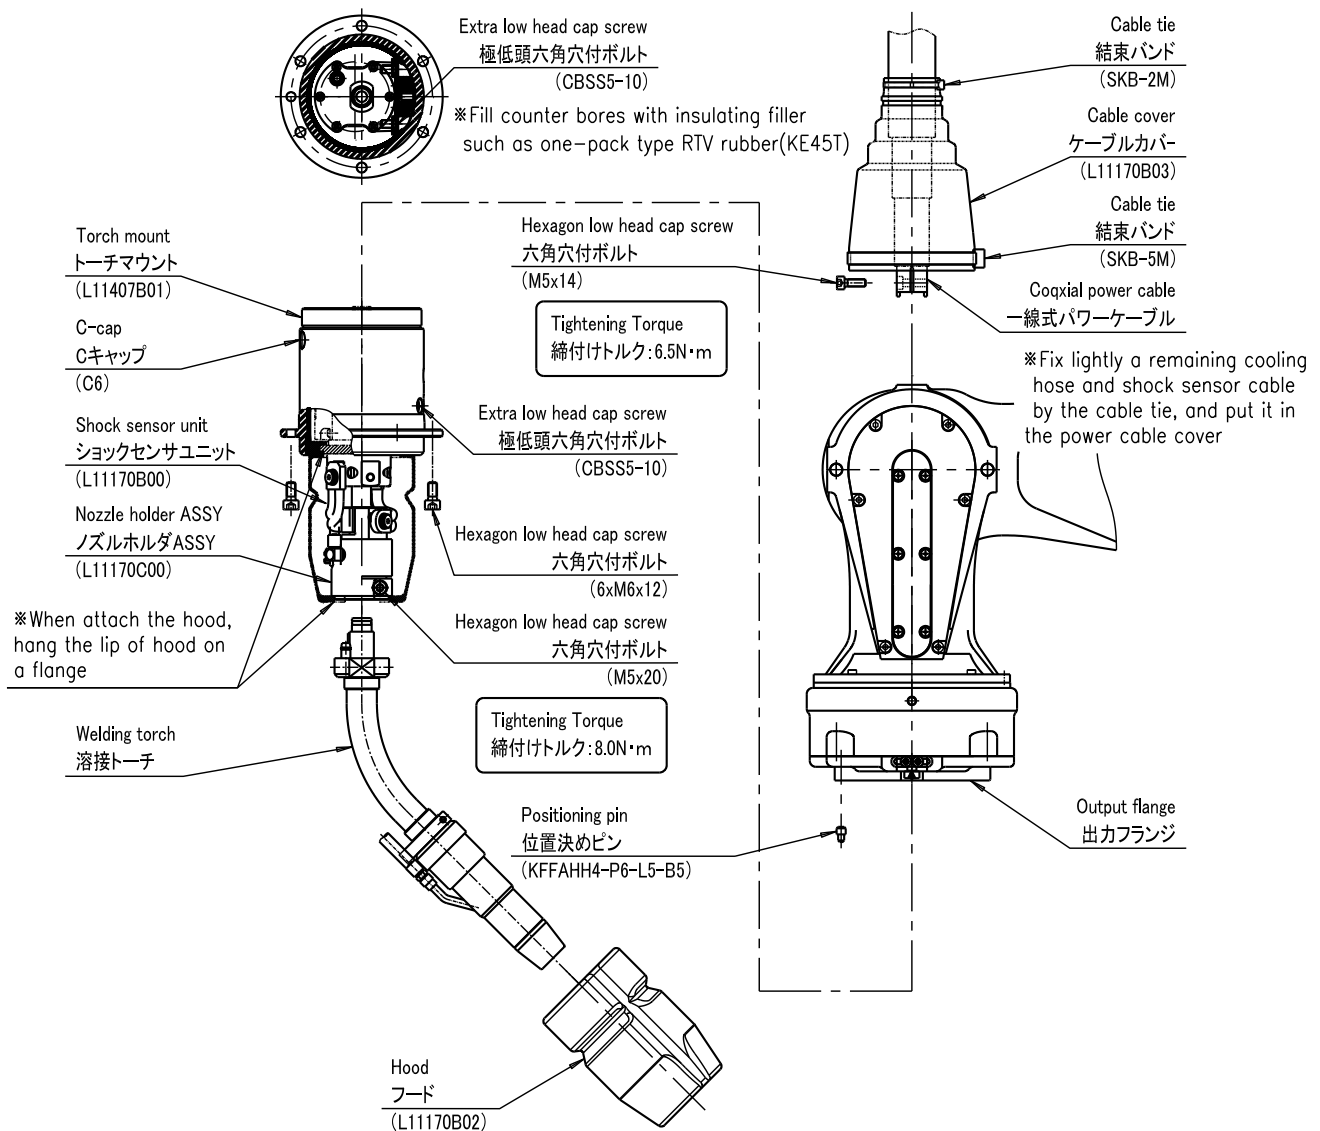

Fig. 3.3 Mounting of torch and shock sensor
- (2) Attach the insulating bracket (L11170F02) to the shock sensor unit (L11170B00) using 4 pieces extra low head cap screw (CBSS5-10), and **fill counter bores with insulating filler such as one-pack type RTV rubber over the bolts for secure insulation.**
- (3) Attach the torch mount to the shock sensor unit assembled in (2) using 4 pieces of extra low head cap screws (CBSS5-10). (This does not need to be insulated.)
- (4) In advance, pass the cable cover (L11170B03) through the coaxial power cable. Pass the coaxial power cable through the 6th axis hollow and then attach the cable to the shock sensor unit. To secure the cable, insert a tool from the hole on the side of the torch mount and secure the bolts. Cap the hole through which the tool is passed using C cap (C6). Connect the shock sensor cable.
- (5) Insert the shock sensor unit assembled in (4) into the manipulator output flange from the bottom and secure it using 6 pieces of hexagon socket head cap screws (M6x12). Then, align the torch mount pin hole to the positioning pin.
- (6) Unfasten the hexagon socket head bolt (M5x20) that fixes the shock sensor, and then insert and fix the welding torch.
- (7) Attach the cable cover and then attach the hood (L11170B02) from the bottom. (Refer to the top view in fig.3.3 for the installation direction.) To fix the power cable cover, use the cable ties that come with the shock sensor. (Fix the cover at the top and bottom.)
Note) Adjust the phase of the shock sensor to those of the coaxial power cable as shown Fig. 3.3.